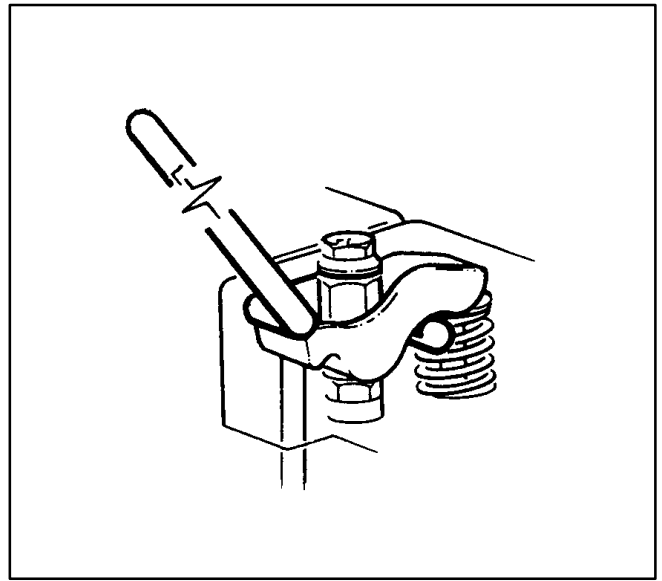

FIGURE 8-5. HYDRAULIC TAPPET TOOL
11. Install the valve rockers (Figure 8-2). Torque the rocker lever nuts to 34.0 N-m (25.0 lb-ft). Make sure the crank is not turned while waiting for the hydraulic tappets to “bleed down”. Bleed-down under valve spring pressure takes about 45 minutes. (New tappets not filled with oil do not have to bleed down.) A hydraulic tappet tool (Figure 8-5) is available to speed up the process.